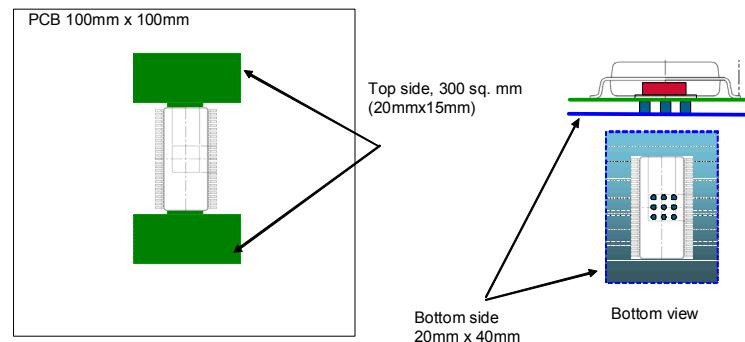

Figure 9. PCB with Top and Bottom Layer Dissipation Area (Dual Layer)
- This parameter was measured according to Figure 9: